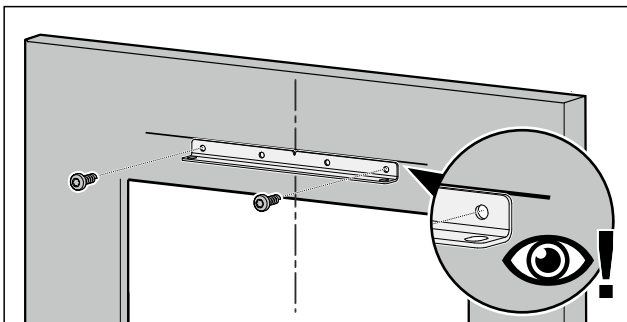

*Fig. 101*
- Remove the screws. *Fig. 101 (1)*
- Remove the mounting bracket. *Fig. 101 (2)*